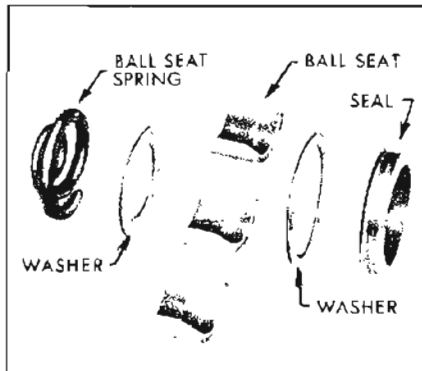

Figure 6-64—Ball Seat Assembly
2. Install spring, small end first. Install seat washer, ball stud seats, and seal washer. See Figure 6-64.